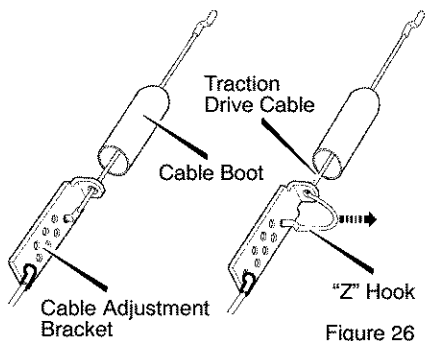

Figure 26
6. Slide the **cable boot** off the **cable adjustment bracket** (see Figure 26).